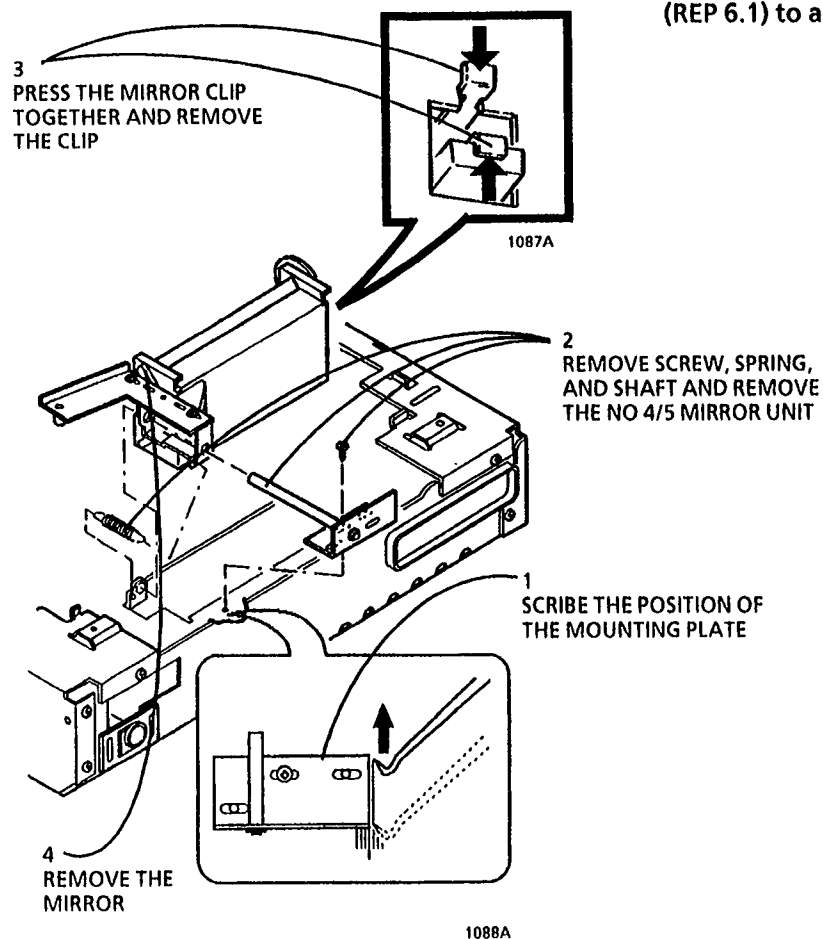

Figure 2. Removing the Mirror
1. (Figure 2): Remove the No. 4/5 Mirror